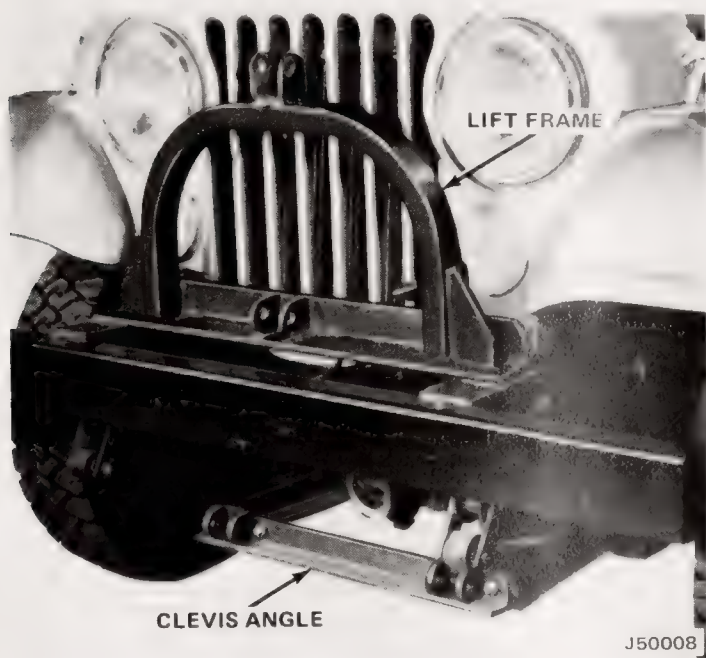

Fig. 1-3 Lift Frame and Mounting Frame Installed
- (8) Install lift arm to lift frame.
- (9) Install bumper (fig. 1-3).
- (10) Connect A-frame to clevis angle with hinge pins and spring clips.
- (11) Attach chain from A-frame to lift arm.
- (12) When installation is complete tighten all bolts to 60 to 70 foot-pounds torque.